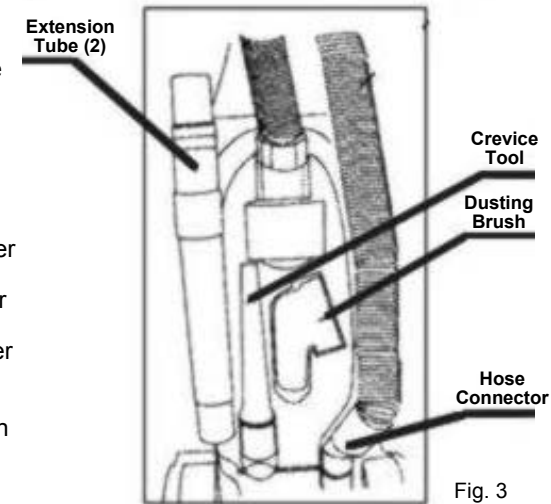

Fig. 3
4. Pull the hose connector from the rear of the vacuum and push the desired attachment firmly onto the end of the hose. (Fig. 3)